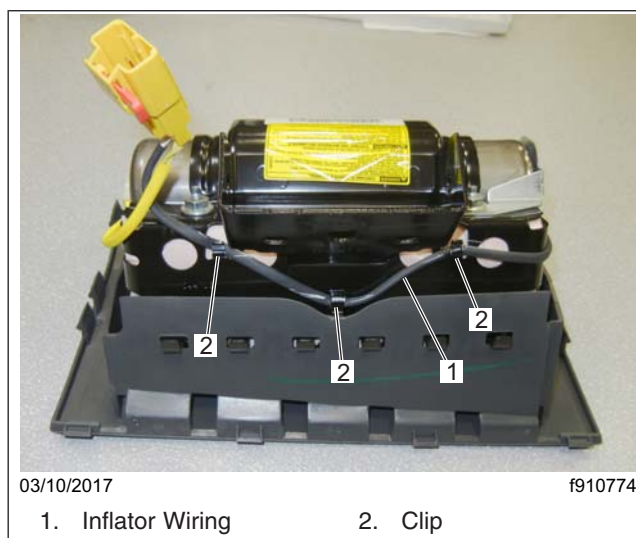

Fig. 7, Inflator Wiring Clips
10. Detach the inflator wiring from the three clips on the side of the airbag housing. See Fig. 7.
17. Attach the wiring to the three clips on the side of the airbag housing. See Fig. 7.